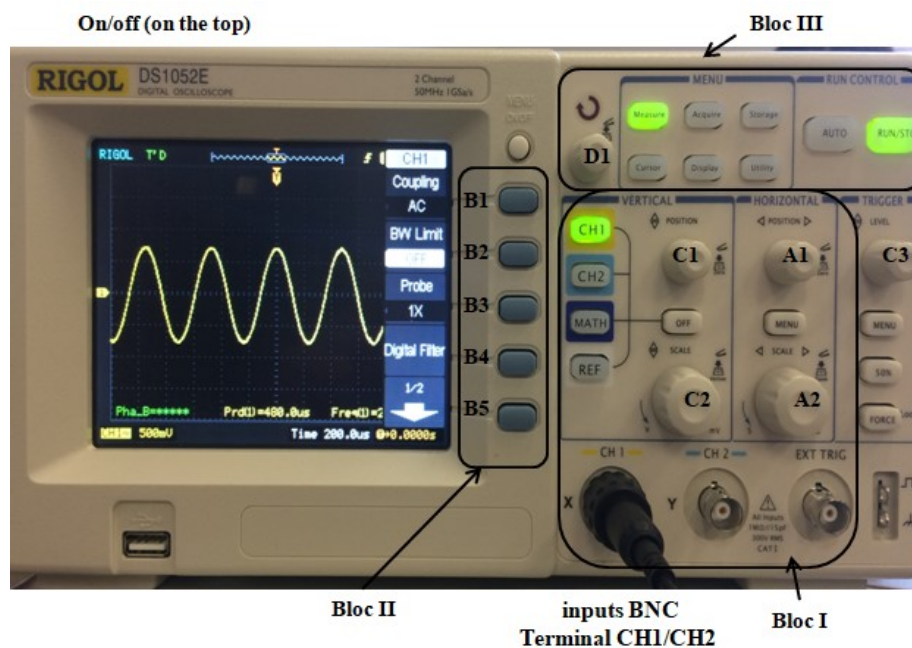

Figure 2.
The BNC inputs, denoted CH1 and CH2, correspond to the input channels (1) and (2). It is possible to see both signal but you have to select which signal you want to set-up by pressing button CH1 or CH2 buttons in Bloc I. On Figure 2 CH1 is selected. The positions of the signals can be vertically moved on the screen using C1. With buttons C2 one can select the amplitude voltage sensitivity given by one square –or division- on the screen: it is the vertical sensitivity. Button A1 can change the horizontal position of both signals and A2 may select the time-basis, which is the time duration given by one division: it is the horizontal sensitivity.